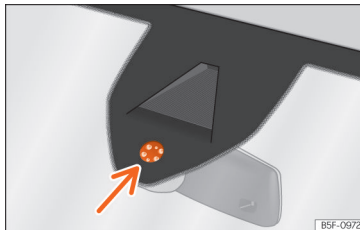

Fig. 106 Rain sensor sensitive surface
Possible causes of faults and mistaken readings on the sensitive surface »» » Fig. 106 of the rain sensor include:
- Clean the sensitive surface of the rain sensor regularly and check the blades for damage »» Fig. 106 [arrow].